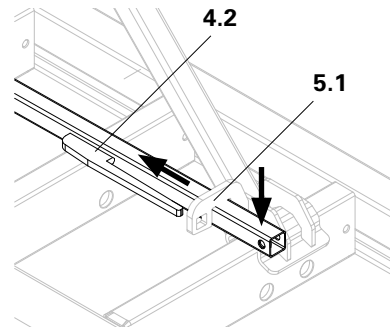

Fig. A8.04
2. Push Front Guardrail downwards (to panel) so that the hooks run through under the guides (5.1). (Fig. A8.04)